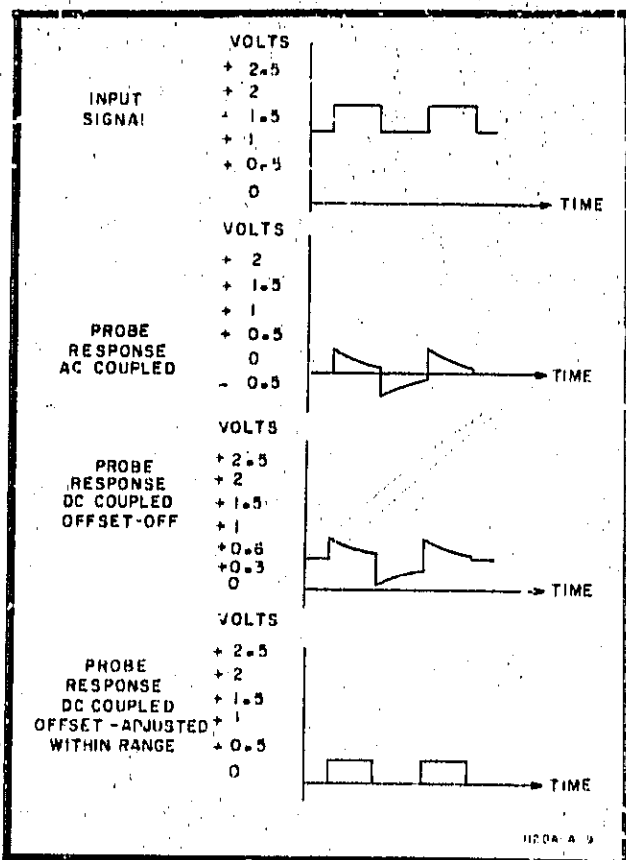

Figure 5. Low-frequency Offset Operation
18. When the dc level of the input signal is greater than ± 0.6 volt, the output of the DC-restore circuit will limit at approximately $+0.6$ volt or -0.6 volt (R1 fully counterclockwise). The dynamic range of the ac signal remains at ± 0.5 volt. See figure 5 for comparison between an input signal using the offset circuit and an input signal not using the offset circuit.